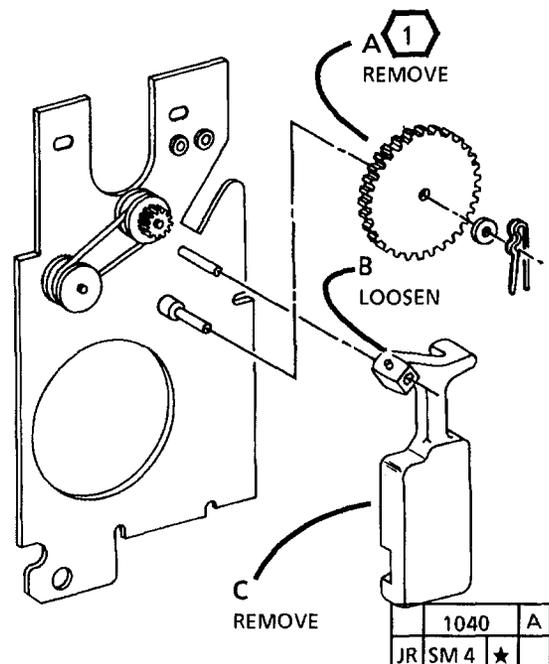

Figure 1. Remove Transition Gear and Weight
3. (FIGURE 1): REMOVE TRANSITION GEAR AND WEIGHT.